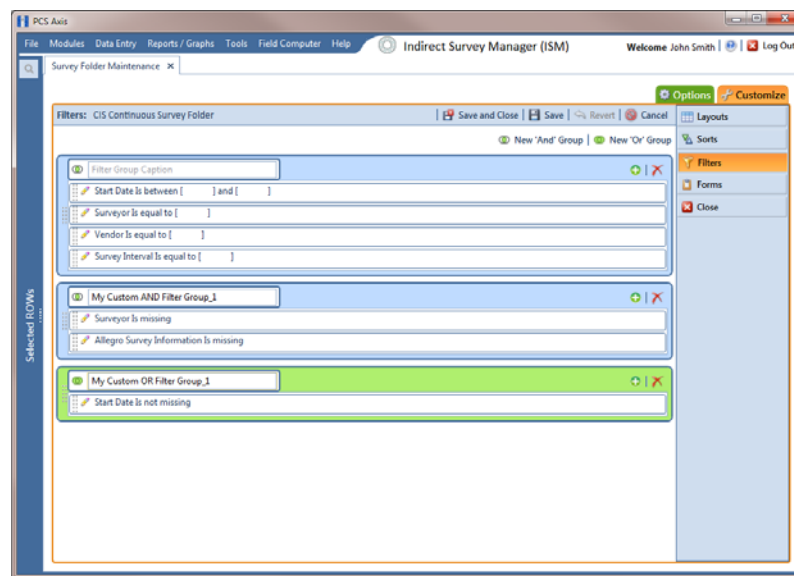

Figure 6-22. Filters
- 7 Click a filter's edit icon  to display filter property settings (Figure 6-22).